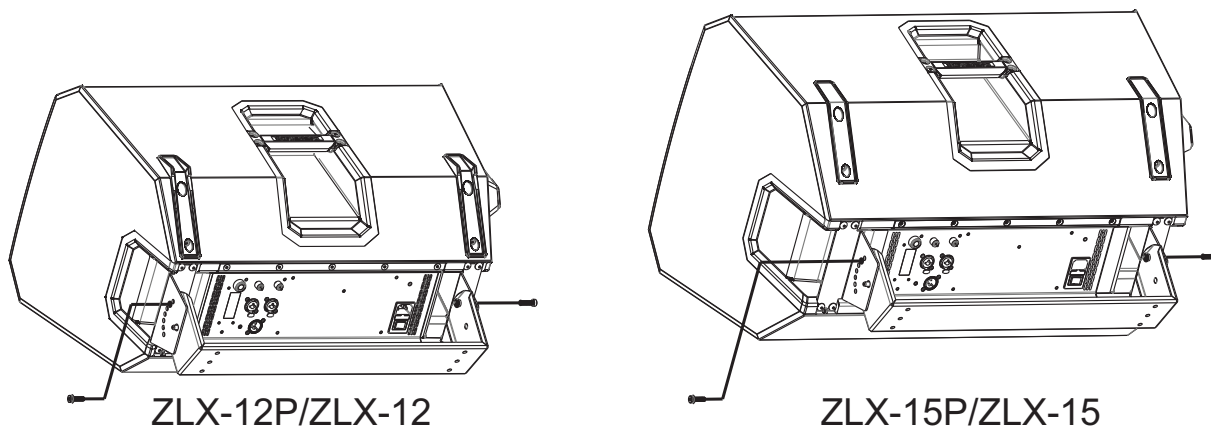

Figure 2.7: Secure Loudspeaker—Horizontal
7. Insert and tighten the **two (2) screws (supplied)** sufficiently so the loudspeaker does not inadvertently rotate (see Figure 2.7).